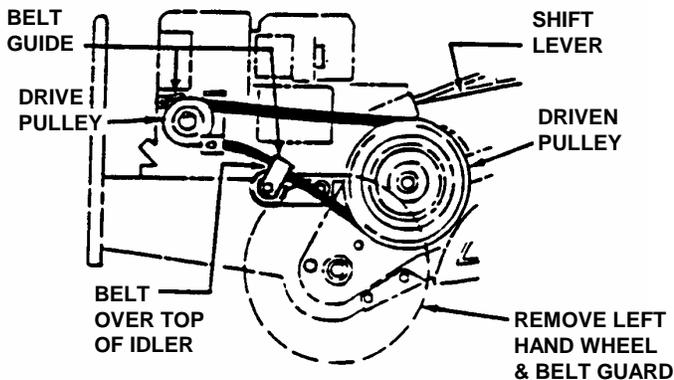

FIGURE 14
**3.5.2 BELT REPLACEMENT:** Pull the clevis pin from the left wheel and slide the wheel out 1", remove belt guard and then the old belt. NOTE: Replacement belt must go over the top of the idler and be within the belt guide as shown in Figure 14. Check belt tension as described in BELT TENSION ADJUSTMENT Section. Reinstall guard, push left wheel back into position, secure with clevis pin and insert, and secure cotter pin.